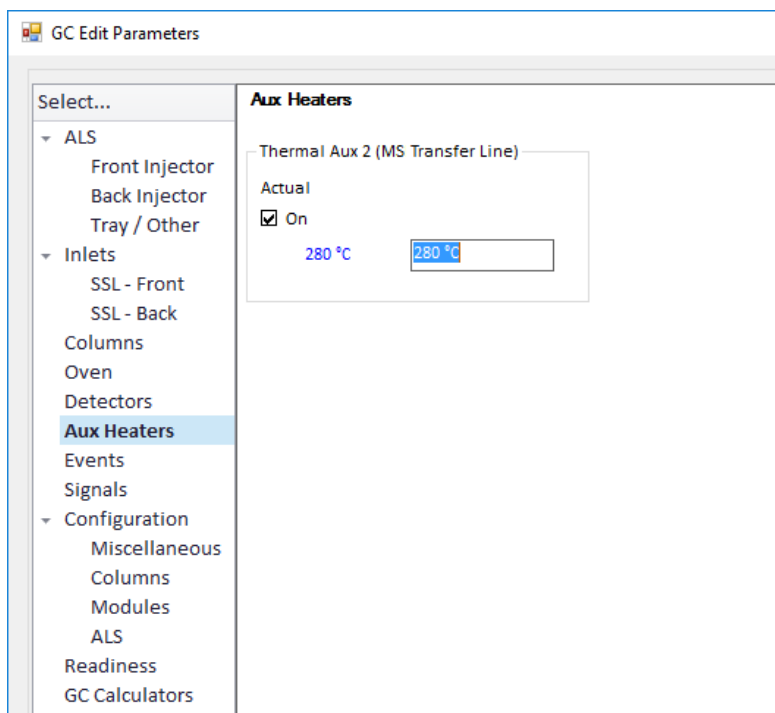

Figure 10. Setting the interface temperature
- 2 Click **Aux Heaters** in the navigation pane to edit the interface temperature. The example in **Figure 10** has the GC/MS interface temperature configured as **Thermal Aux 2**.